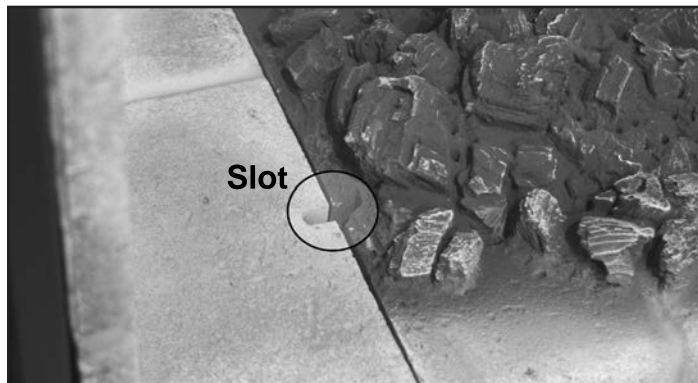
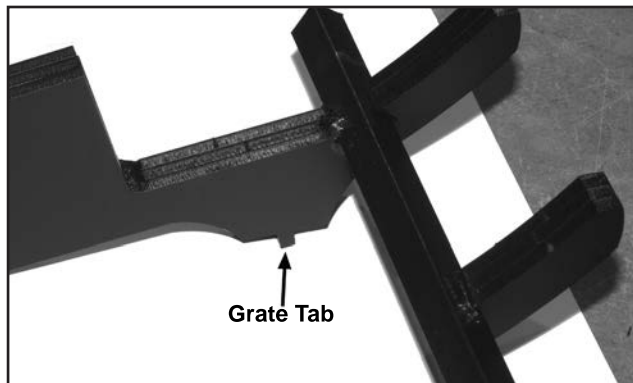

Figure 20: Slot for Firebox Grate.
Figure 21: Tab on Firebox Grate.
5. The firebox grate has two (2) tabs that run below the feet of the grate (see Figure 21), place the grate over the burner top and carefully inserting the grate tabs into the slots on the burner (see Figure 20 & 22). Once the grate is installed correctly, the burner, grate, and side burner accents will be all locked together.